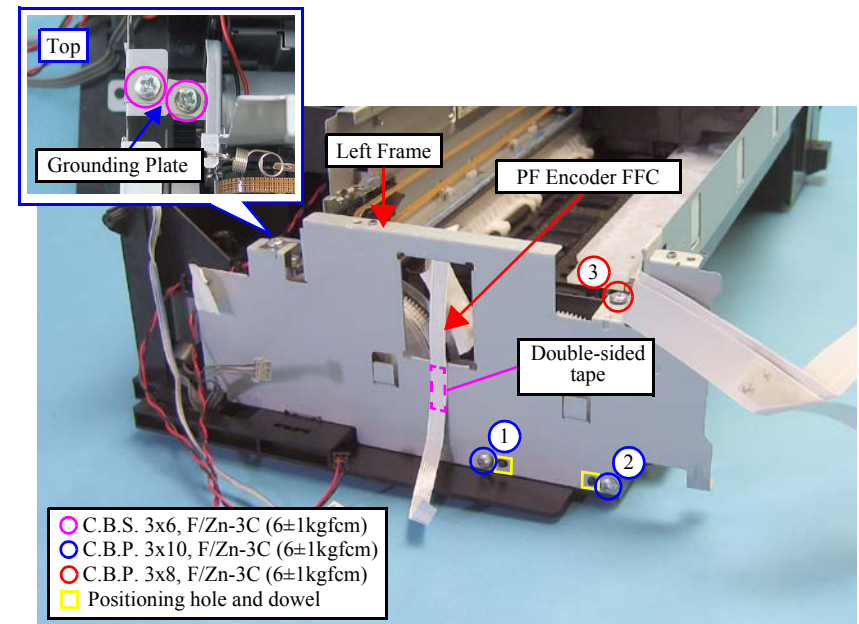

Figure 4-58. Removing the Left Frame
- Make sure to route the PF Encoder FFC through the hole of the Left Frame, and secure it with a double-sided tape as shown in Figure 4-58.
- Make sure to match the dowels of the Base Frame and the positioning holes of the Left Frame as shown in Figure 4-58.
- When installing the Left Frame, tighten the screws in the order given in Figure 4-58.